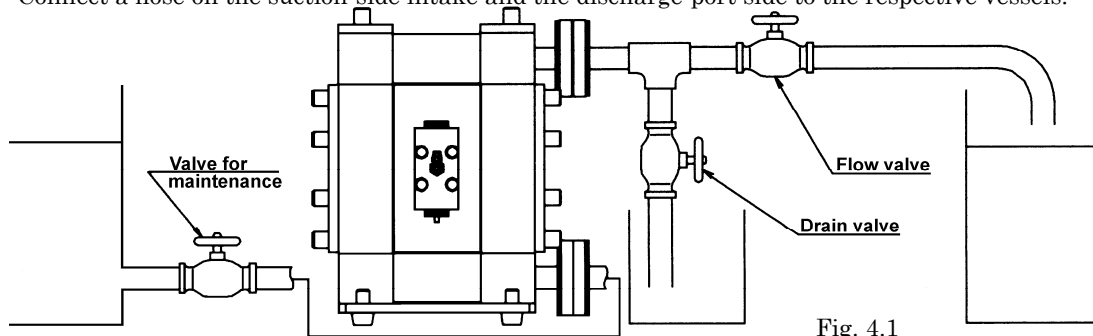

Fig. 4.1
4.1 Connecting fluid piping (Fig. 4.1)